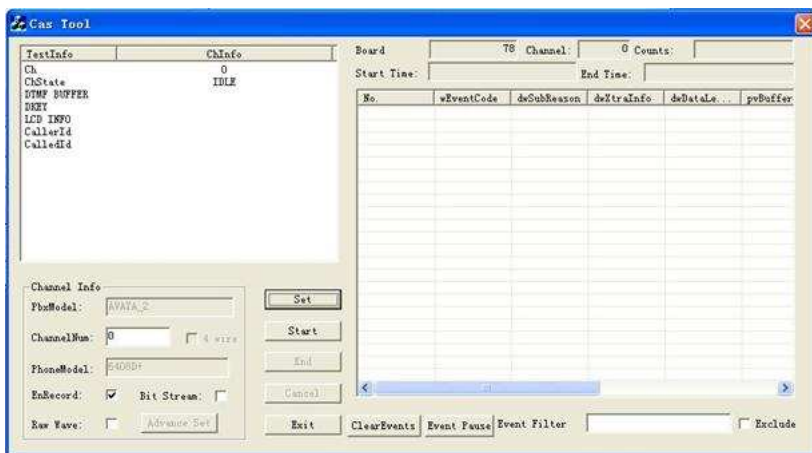

Figure 2-6
**Step 6:** Click on 'OK' back to the main window. Now the button 'Start' is activated as shown in Figure 2-6.